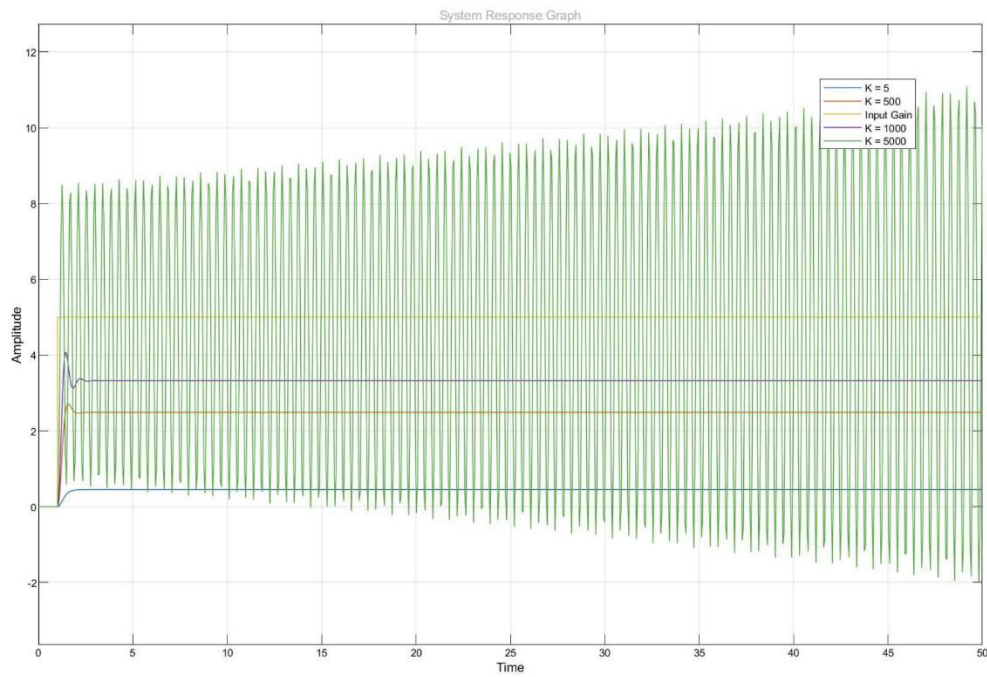

Figure 15 - A graph of the error signal of the system for an input of 5 for (6)
1. Regarding Question (6): You can compare the error signals of the system for various inputs (step, ramp, and parabolic) using the Simulink graphs (Figures 15–17). If there are differences between the predicted steady-state errors and the ones observed in the plots, the Simulink model's approximation, numerical errors made during simulation, or unmodeled dynamics could be the cause. Verify that the predicted theoretical values from the pre-lab and the steady-state errors match. For example, in a Type 0 system, the steady-state error for a step input should be finite, but for a ramp input, it should be infinite, and so on.